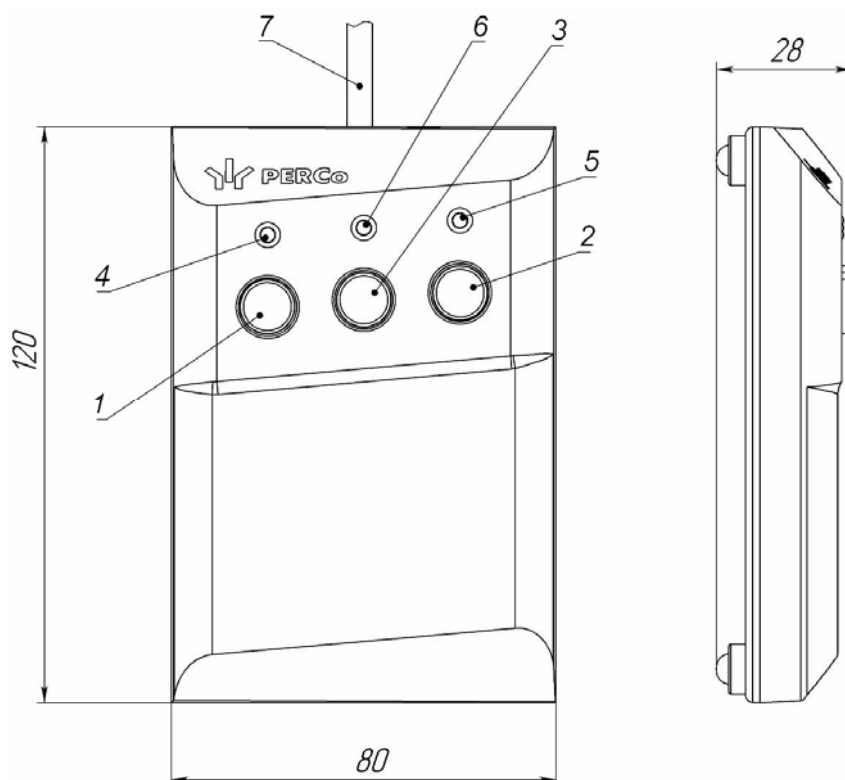
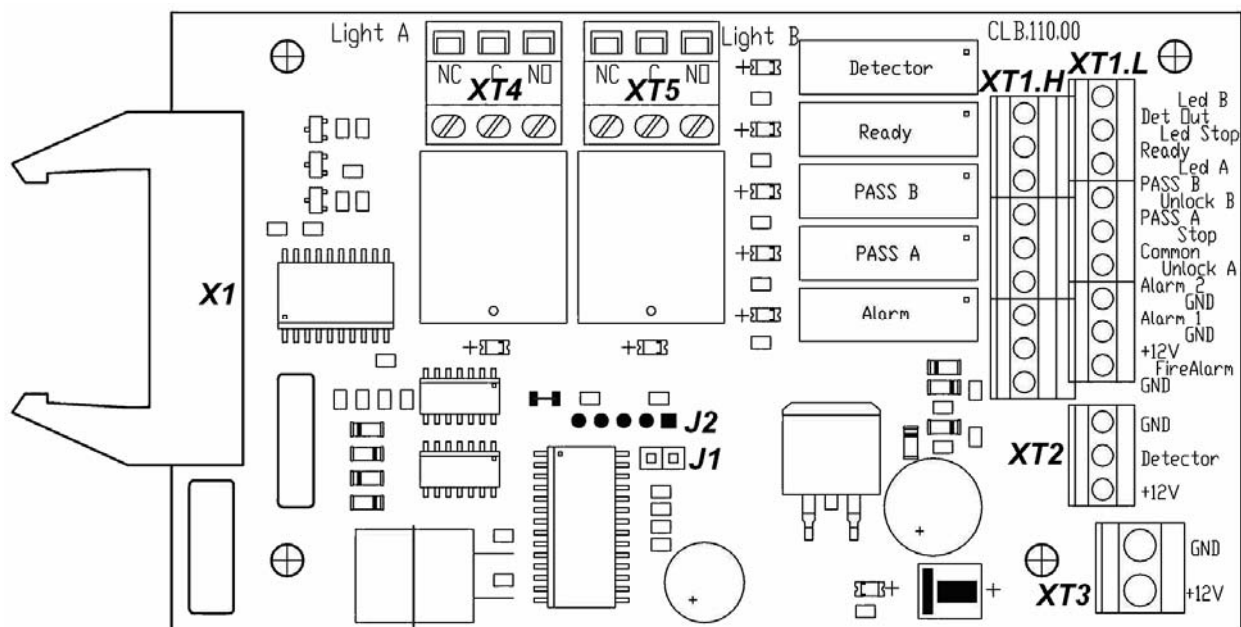

Fig. 4. RC-panel overall view
Fig. 5. The CLB
5.2.3 Inside the turnstile housing there is a bracket with a CLB mounted on it with terminal clamps for connection of external devices. RC-panel, ACS outputs, WRC device (when used), intrusion detector (optional) and emergency unblocking device are connected to the CLB. Connection lines of a power supply unit, signal lines of card readers and card capture reader are connected to the terminal clamps for connection of external devices. External devices are connected in accordance with connection layout (Ref. Fig. 11). The CLB is shown in Fig. 5.
5.2.4 The RC-panel is designed as a small desktop device with a shock-proof ABS plastic case and is intended for setting and indicating operating modes when the turnstile is operated manually. The RC-panel is connected to the CLB with a flexible multicore cable (17) via a **XT1.L** connector block (Ref. Fig. 5). The RC-panel overall view is shown in Fig. 4.
The front of the RC-panel houses three control buttons with LED indicators above to set passage modes of the turnstile. The “STOP” button in the middle serves for setting the “Always locked” operating mode, the right and left buttons – for unlocking the turnstile in a chosen direction. The RC-panel orientation towards the turnstile (if an operator’s terminal is placed at the backside of the turnstile housing) can be changed by swopping wires of the RC-panel connected to the contacts: *Unlock A* and *Unlock B* respectively, as well as Led A and Led B respectively (Ref. Fig. 5 and Fig. 11).
5.2.5 The CLB (Ref. Fig. 5) houses:
5.3.7 Pin assignment of the CLB connector blocks are given in Fig. 5 and on a label located on the inner surface of the turnstile top cover.
and “Alarm” relays is indicated by lighting/going out of red indicators located near the corresponding relays (Fig. 5).
5.5.2 The control mode is set by the jumper on a **J1** connector (the **J1** connector location is shown in Fig 5: the jumper is installed – the pulse control mode, the jumper is not installed – the potential control mode). The jumper is installed at delivery.
5.9.2 The intrusion detector is connected to the **XT2** connector block, and the siren is connected to the **XT1.H** connector block of the CLB according to the connection layout (Fig. 11 and Fig. 5). The intrusion detector should have normally closed contacts.
A signal on current status of the intrusion detector is constantly transmitted to the *Det Out* and *Common* contacts of the CLB **XT1.H** connector block (Fig. 5).
5.9. The emergency unblocking device is connected to the **XT1.L** connector block of the CLB in accordance with the connection layout (Fig.11 and Fig. 5). If the *Fire Alarm* input is not used, it is necessary to install a jumper between the contacts *Fire Alarm* and *GND*. This jumper is installed at delivery.